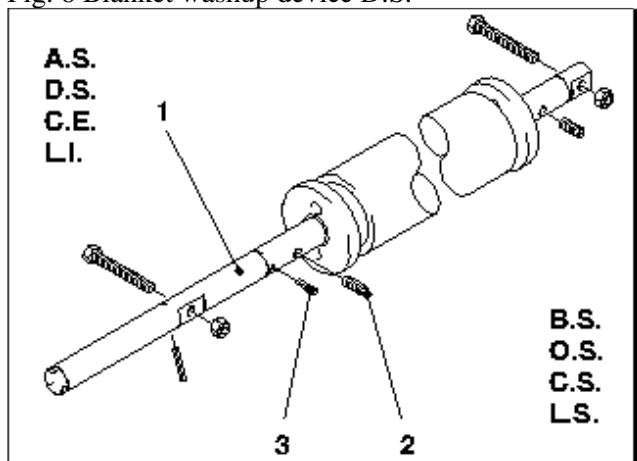

Fig. 9 Blanket washup device
13. Unscrew the grub screw (Fig. 9 /2) of the parallel adjustment.